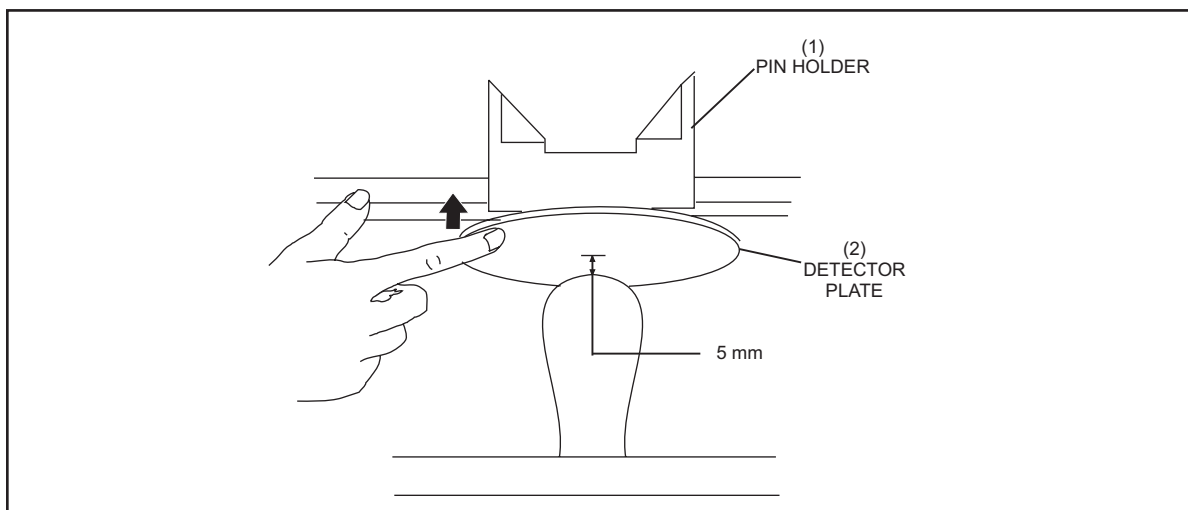

Figure 5-41. Pin Detector Plate Clearance
3. With the pin detector plate held up manually to the highest point, check for a clearance of 5 mm between the top of the pin and the center of the pin detector plate. Refer to *Figure 5-41*.